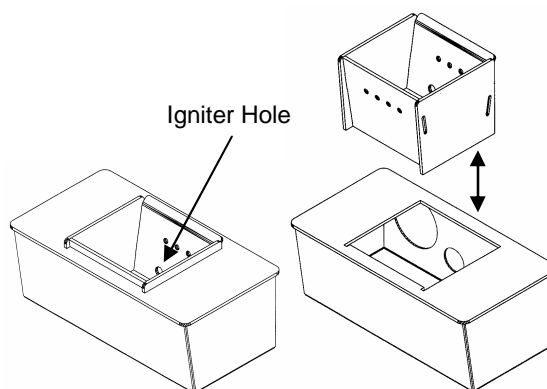

FIGURE 25
- Open door and remove the optional imitation log set, if in use. Remove the burnpots inner section by grasping it and pulling straight up (see Figure 25).
- Replace inner section into burnpot; make sure it is level and pushed all the way back down and that the igniter hole is to the rear when it is reinstalled (see Figure 25).